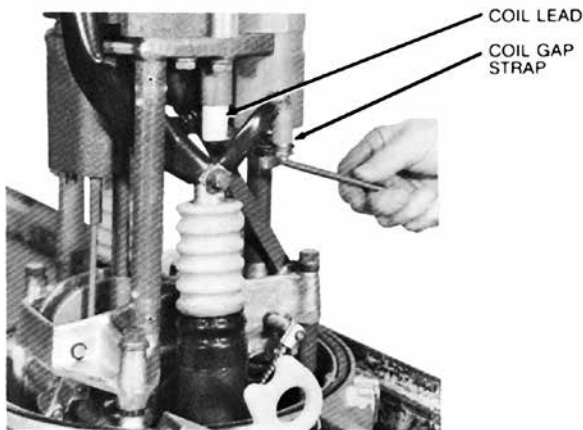

Figure 13. Removing lead from left-hand contact assembly
- B. Disconnect the coil lead and coil gap strap from the horizontal terminal on the left-hand contact assembly by removing the hex bolt, lockwasher, and flatwasher (Figure 13).